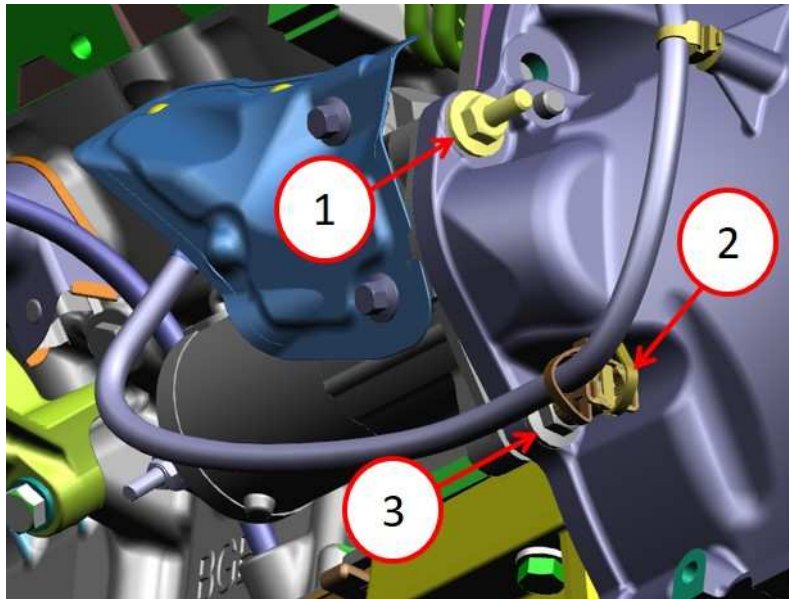

Fig. 1
3. Replace the upper mounting stud (Fig. 1) securing the starter. Tighten to 67 N·m (49 ft. lbs.).
4. Carefully remove the wire clip retainer from the bottom starter bolt (Fig. 1) .
5. Replace the lower bolt (Fig. 1) securing the starter. Tighten to 67 N·m (49 ft. lbs.).
6. Install the wire clip retainer on the bottom starter mounting stud (Fig. 1) .